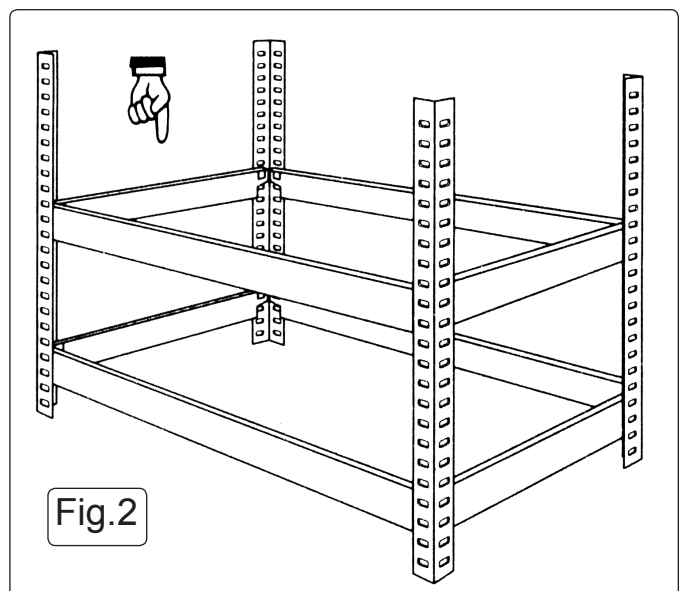

Fig.2
- 4.3 See Fig.2. Decide on the height of the second shelf. Fit another 2 short shelf supports at the desired height then fit 2 long shelf supports at the same height.